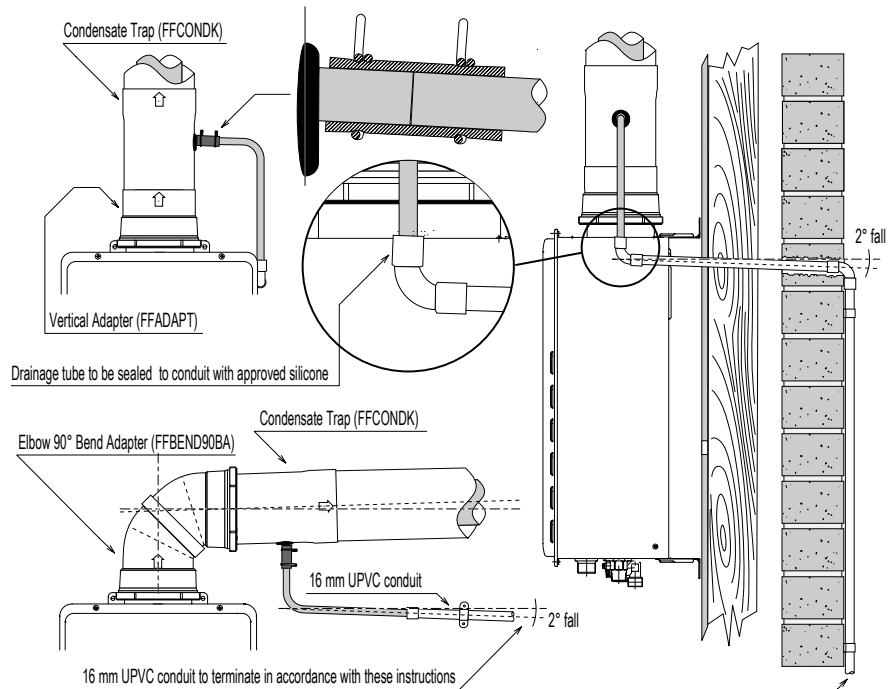

Fig.10
5. If the total length of the flue exceeds 1.5 meters a condensate trap **MUST** be installed either vertically or horizontally adjacent to the heater. The flue should be configured to have a 2° fall towards the heater to ensure draining of condensation. Install condensate drain in accordance that shown **Fig 10 page 8**.
1. Connect the aluminium drain tube to the condensate trap with the black silicone socket (**Fig.10**).